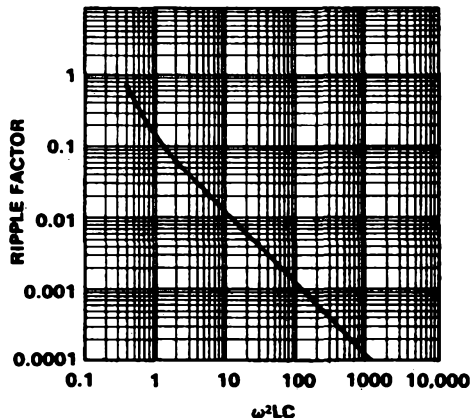

Fig. 4-13. Filter Factor vs  $\omega^2 LC$
*Figure 4-13* is a plot of the filter factor versus the  $\omega^2 LC$  product. The one additional requirement is continuous current flow through the inductance. This says, in effect, that there is a critical inductor size. To assure this continuous current flow, a bleeder resistor  $R_K$  must be used at the filter output. The critical
Bleeder current  $I_K$  may be assumed to be 10% of minimum load current or, if this is not a practical value, then some reasonable minimum bleeder current is selected. Once the critical inductance is found, then the capacitor value may be determined by the following steps: Set  $L = 2 L_C$ . Determine  $\omega^2 L C$  from *Figure 4-13* for the required ripple factor. Solve for  $C$  from  $\omega^2 L C = X$ , where  $X$  is the product from *Figure 4-13*.
<p>Design Example Full wave, single-section, choke input filter design,</p> <p><math>V_O = 50 \text{ V}</math>    <math>I_K = 100 \text{ mA}</math> <math>I_O = 1 \text{ A}</math>    <math>R_S = 10 \Omega</math>    <math>\gamma = 1\%</math></p> <p>Step 1 Calculate <math>R_K</math></p> $R_K = \frac{V_O}{I_K} = \frac{50 \text{ V}}{100 \text{ mA}} = 500 \Omega$ <p>Step 2 Calculate <math>R_{\text{eff}}</math></p> $R_{\text{eff}} = \frac{R_K R_{L(\text{max})}}{R_K + R_{L(\text{max})}} = 500 \Omega \quad (R_{L(\text{max})} = \infty)$ <p>Step 3 Calculate <math>L_C</math></p> $L_C = \frac{R_{\text{eff}} + R_S}{3\omega} = \frac{500 + 10}{1130} = \frac{510}{1130} \approx 0.5 \text{ H}$ <p>Step 4 Calculate <math>C</math></p> <p style="text-align: center;"><math>\gamma = 0.01</math></p> <p>then, <math>\omega^2 L_C C = 12</math> from Figure 4-13</p> $C = \frac{12}{\omega^2 L_C} = \frac{12}{(120\pi)^2 0.5} = \frac{12}{142 \times 10^3 \times 0.5} = 0.169 \times 10^{-3} = 169 \mu\text{F}$	<p>Step 5 Calculate <math>I_M</math></p> <p>Since <math>L = L_C</math> then <math>I_M = 2 (I_O + I_K)</math> <math>I_M = 2 \times 1.1 = 2.2 \text{ A}</math></p> <p>Step 6 Calculate voltage drop both at no load and full load</p> <p><math>V_D \text{ no load} = I_K (R_S) = 0.1 \times 10 = 1 \text{ V}</math> <math>V_D \text{ full load} = (I_O + I_K) R_S = 1.1 \times 10 = 11 \text{ V}</math></p> <p>Step 7 Calculate transformer minimum rms voltages</p> $V_{\text{rms}} = 1.11 \left[ V_O + R_S (I_{O(\text{max})} + I_K) \right]$ $V_{\text{rms}} = 1.11 (50 + 10 \times 1.1)$ $V_{\text{rms}} = 1.11 (61)$ $V_{\text{rms}} = 67.5 \text{ V}_{\text{rms}}$ <p>Step 8 Calculate maximum output voltage</p> $V_{O(\text{max})} = \frac{V_{\text{rms}}}{1.11} - I_K R_S$ $V_{O(\text{max})} = \frac{67.5}{1.11} - 0.1 \times 10 = 61 - 1 = 60 \text{ Vdc}$ <p>Step 9 Calculate PIV rating required</p> <p>PIV = (1.57) <math>V_{O(\text{max})}</math> (See Table 4-1) PIV = <math>1.57 \times 60 = 94 \text{ V}</math></p> <p>Transformer ratios are determined from Table 4-1.</p>